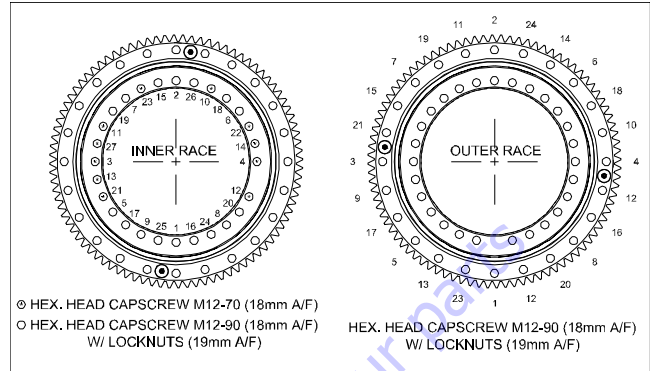

Figure 5-2. Torque Sequence Diagram
6. Following the torque sequence diagram (refer to Figure 5-2.), tighten the bolts to an initial torque of 80 Nm (59 ft lbs). Then, following the same sequence, tighten to a final torque of 117 Nm (86 ft lbs).
8. Loosely install all hardened washers and locknuts. Following the torque sequence diagram (refer to Figure 5-2.), tighten the nuts to an initial torque of 80 Nm (59 ft lbs). Then, following the same sequence, tighten to a final torque of 117 Nm (86 ft lbs).